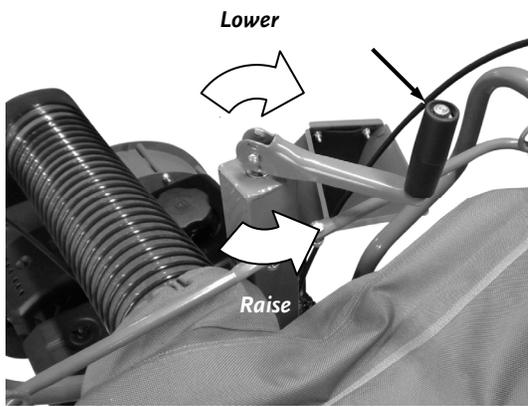

Figure 23
1. **To raise the Snout:** Grasp the Height Adjust Handle, and rotate counter clockwise (**Figure 23**).